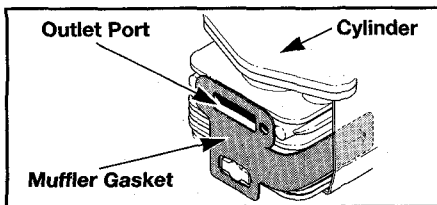

Fig. 39
1. Install a new gasket. Make sure the arrow stamped into the gasket is to your right. Tuck the tab (with the arrow) between the cylinder and plastic shroud (Fig. 39).